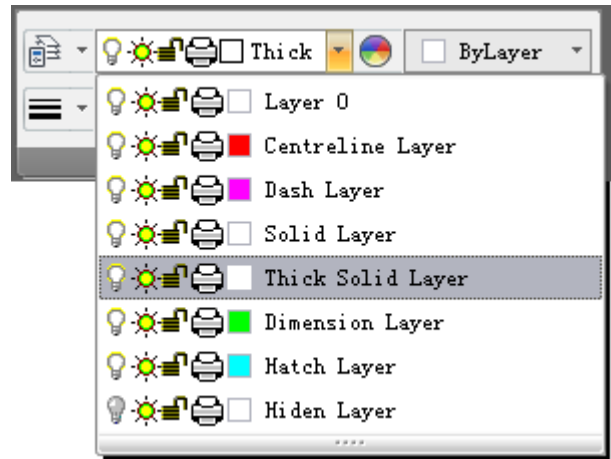

Figure 1-44 Pull down menu of layer
- 1) When no objected is selected, click Color layer toolbar, or click the pull down list of Attribute panel in Command tab, list of layers will popup, left click on the desired layer to select it as current layer and operate. Refer to figure 1-44.